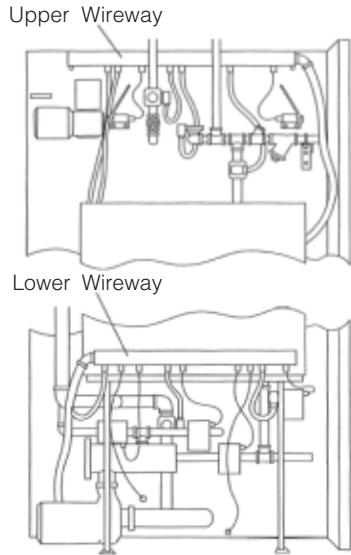

Figure 3-35. Attach Upper and Lower Wireways
12. Attach upper and lower wireways to cabinet (see Figure 3-35). Upper wireway is located near top of cabinet. Lower wireway is located on side of detergent tank.